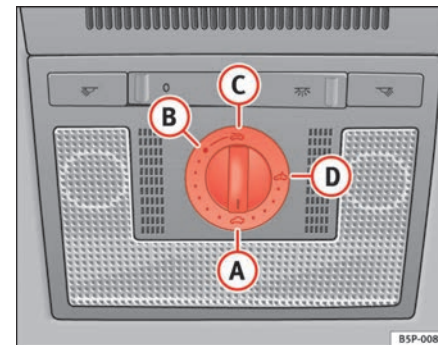

Fig. 68 Roof lining description: rotary sunroof control / deflector ▶
- Turn the rotary button to position **A** ⇒ fig. 68 ⇒ .